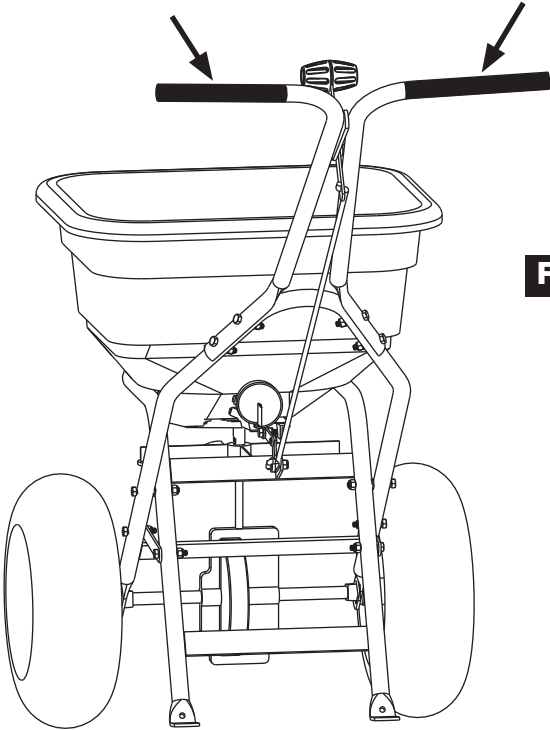

Figure 4
- 4. Install Handle Grips on Handle of Spreader, Figure 4.